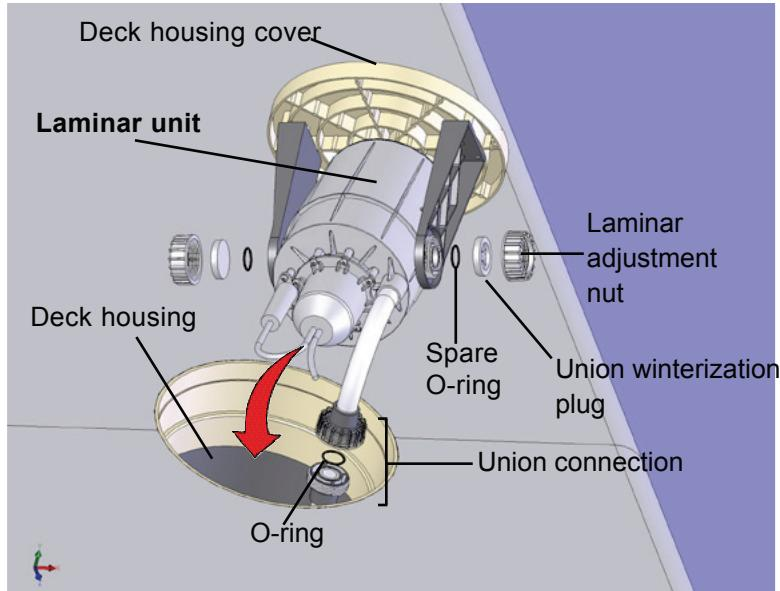

Figure 5
2. Make sure the spare o-rings are in place. Place the union winterization plugs in the Laminar adjustment nuts and screw them in place on the Laminar body (Figure 5).
3. Connect the Laminar to the supply pipe with the union connection (Figure 5). Make sure the o-ring stays in its groove and the connection surface is clear of all glue/dirt.
5. Place the deck housing lid/Laminar unit in the deck housing (Figure 5). If the hoses in the deck housing prevent the proper seating of the deck housing lid, you may have to loosen the union nut briefly and allow the hoses to twist, so that they spiral out of the way, into the deck housing.